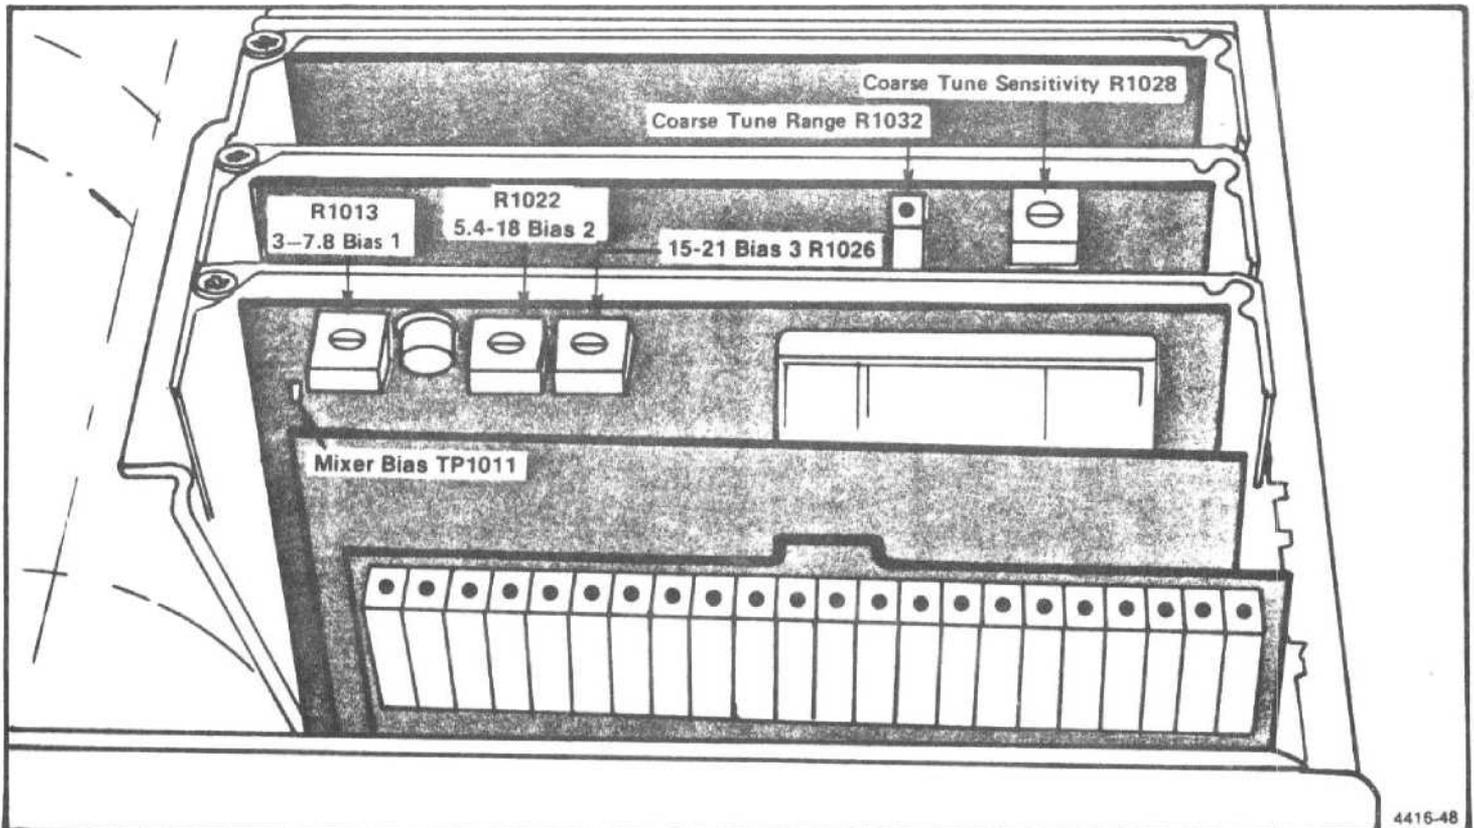

Fig.6-26B Adjustments and test points on the 1st LO Driver board.
d. Connect the DM502 red test lead to TP1011 on the 1st LO Driver board, and the black test lead to the instrument chassis, see Fig.6-26B.
a. Adjust R1022 (see Fig.6-26B) for a reading of -0.25 on the DM502.
b. Push FREQUENCY RANGE ▲ to band 5 (15-21 GHz), and adjust R1026 (see Fig.6-26B) for a reading of -0.25 on the DM502.